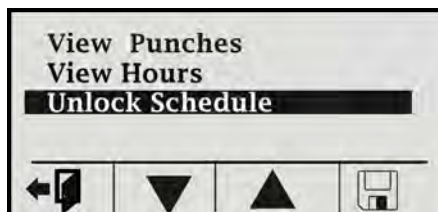
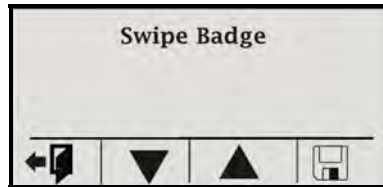

Figure 25: MTX-15 Unlock Schedule at Terminal
Figure 26: Swipe Supervisor Badge
- Step 1.** From the normal main display press the menu  button on the left to view employee information choices (see **Figure 25**).
- Step 2.** Use the Function buttons (see **Figure 25** as indicated underneath the display to move Up ▲ and Down ▼ to highlight “Unlock Schedule” and press **enter enter** on the keyboard to select. The screen will change to the following (see **Figure 26**).